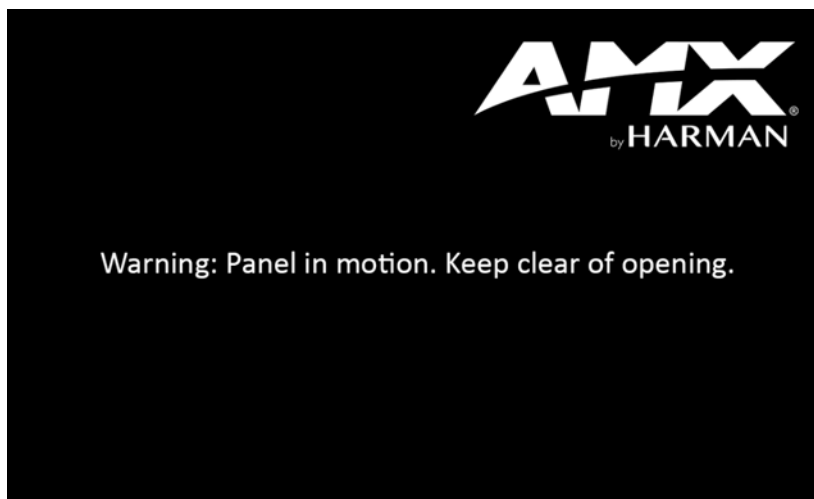

FIG. 5 MXR-1001 Warning: Panel In motion. Keep clear of opening.
When the touch panel is in motion (raising or lowering), a warning screen is displayed on the panel (FIG. 5):
- Application windows that are open when the panel is in motion are automatically closed. Popup windows will stay opened after the panel is completely raised and the warning message (FIG. 5) is closed.